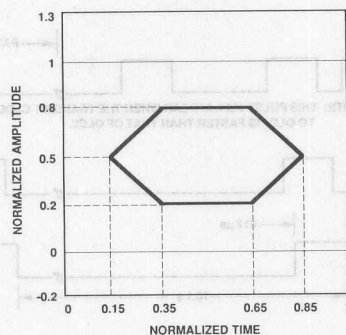

Figure 11. Eye Diagram.
4. Eye opening is the portion of the bit time which is error free for a given bit error rate (BER). The Fiber Channel standard for BER is  $< 10^{-12}$ . The general laser transmitter pulse shape characteristics are specified in the form of a mask of the transmitter eye diagram. These characteristics include rise time, fall time, pulse overshoot, pulse undershoot, and ringing, all of which should be controlled to prevent excessive degradation of the receiver sensitivity. For the purpose of an assessment of the transmit signal, it is important to consider not only the eye opening, but also the overshoot and undershoot limitations. The parameters specifying the mask of the transmitter eye diagram are shown in Figure 11.
5. Random Jitter (RJ) is due to thermal noise which may be modeled as a Gaussian process. The peak-to-peak value of RJ is of a probabilistic nature and thus any specific value requires an associated probability.